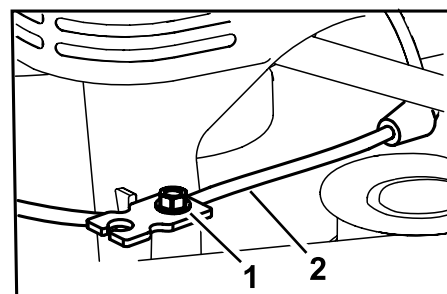

Figure 43
5. Loosen the cable-clamp screw (Figure 43).